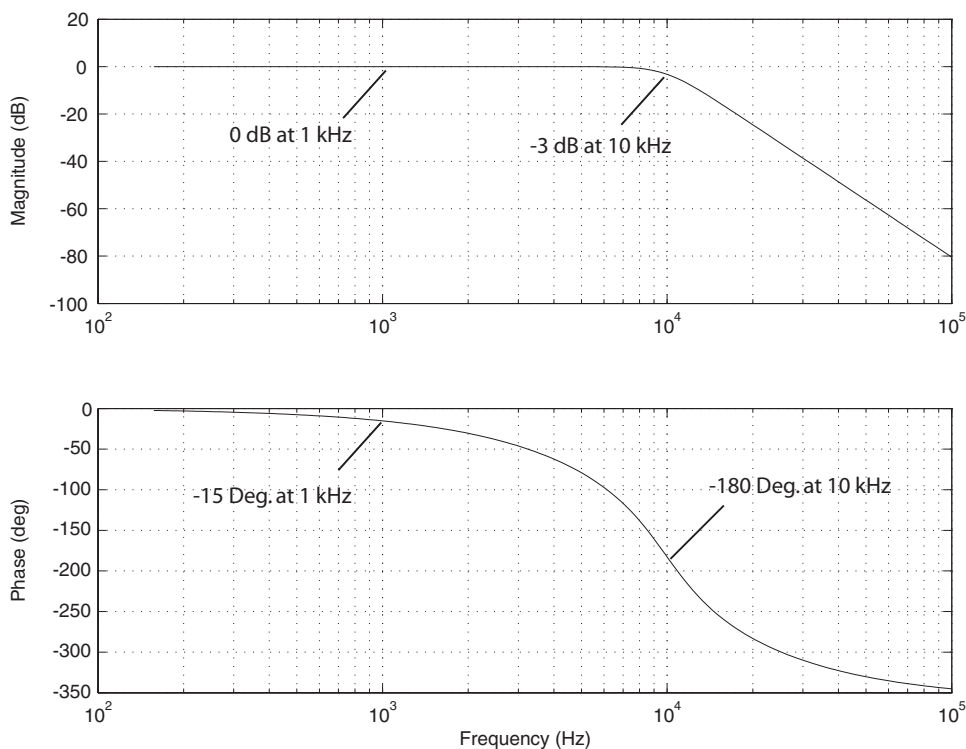

Figure 1: Frequency response of a 4-pole Butterworth low-pass filter with a bandwidth of 10 kHz.
In this lab, you will write three ISRs: IsrA, IsrB and IsrC, all of which will generate PWM signals where the duty cycle of the PWM encodes the values of a sine wave. IsrA will use the first channel of the eQADC module (AN0) to sample a sine wave produced by a function generator. IsrB and IsrC will generate samples of a sine wave numerically, where IsrB will call the C library function `sin()` and IsrC will use a look-up table. The PWM output generated by each ISR will be sent through a low-pass filter, with frequency response shown in Fig. 1. On an oscilloscope, you will view the input sinusoid, output PWM signal, and filtered PWM signals. The filter in the lab is a Sallen-Key implementation of a Butterworth filter.
2. [2] Use the frequency response (both magnitude and phase) in Fig. 1 to plot or sketch by-hand the steady-state time response of the filter to an input sine wave at 1 kHz. Indicate both the input sine wave and the output sine wave and specify how the amplitude and phase change.